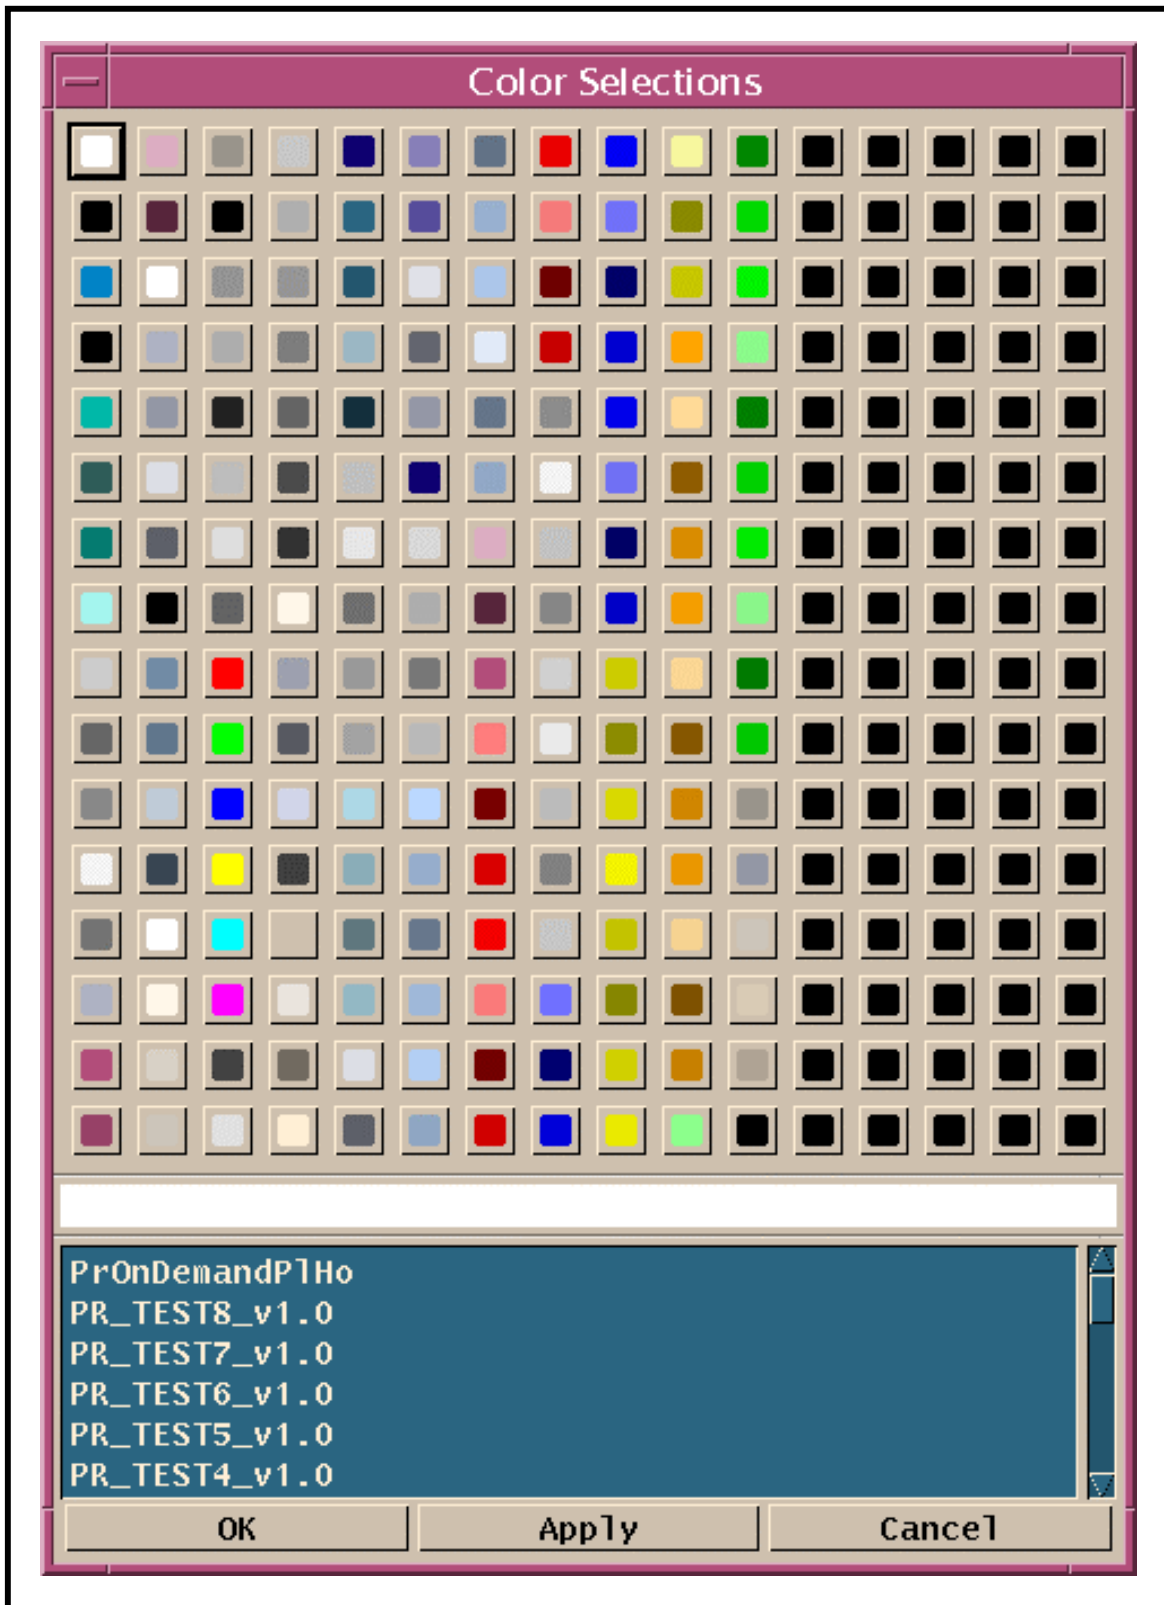

Figure 52. Color Selections Window
- The Color Selections window (Figure 52) is displayed.